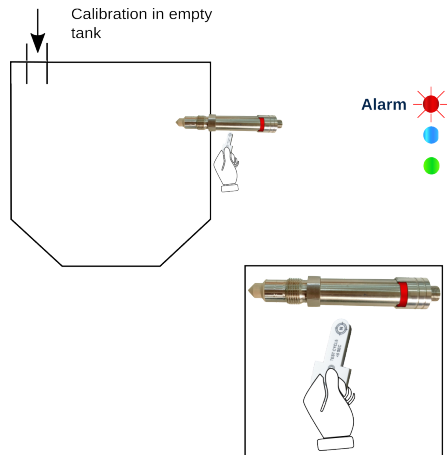

Figure 10: Released Magnetic key
- When magnetic key released from the marked point, status of Red LED output will continuously stays on. As shown in Figure 10.
- Hold the Magnetic key at the marked point of vibrate instrument, so the current status of the PNP and LED output will change and blue LED light will flash twice with the combination of Six blinks, When LED light will be constant then release the key. As shown in Figure 10.